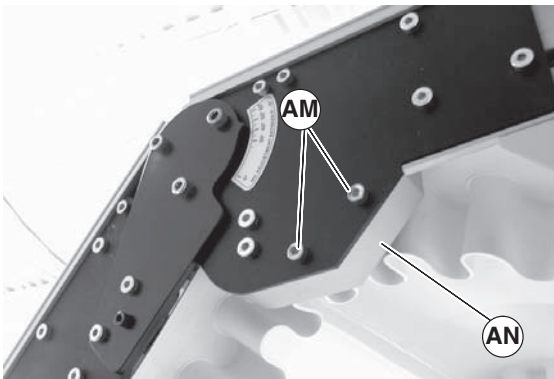

Figure 89
1. Remove screws (Figure 89, item AM) on the worn bearing side of the knuckle and remove guard (AN).
4. Replace guard (Figure 89, item AN) and secure with screws (AM) on both sides of knuckle and remove guard.